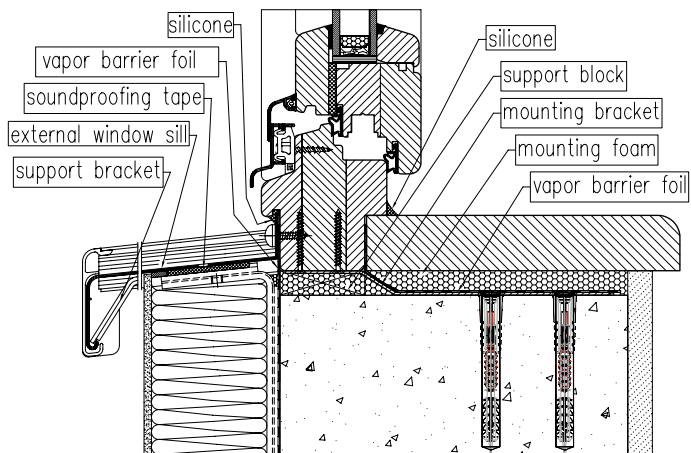

Fig. 8. Sealing and Finishing of Window Sills
11. The lower part of the frame, on the exterior side, may be additionally sealed by applying vapor-permeable foil between the bottom frame and the wall (see Fig. 8, p. 11).